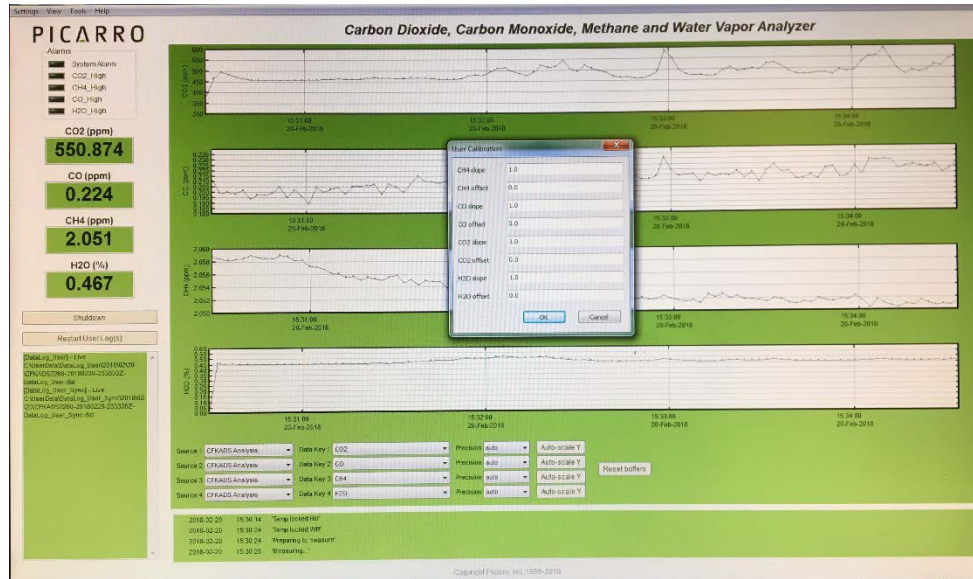

Figure 7. User Calibration Slope and Offset Input Screen
- 4.2.3 A linear best-fit equation is then calculated from the results and this slope and offset is entered into the User Calibration as "Slope" and "Offset" (Figure 7). The User Calibration window can be accessed through the Tools menu.